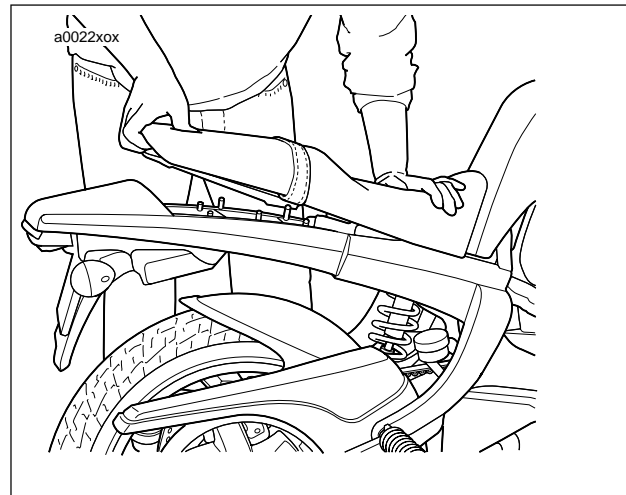

Figure 2-116. Seat Installation
2. See Figure 2-116. Ensure seat is upright. Grasp the rear section of the seat with one hand and grasp the front section of the seat with the other hand.